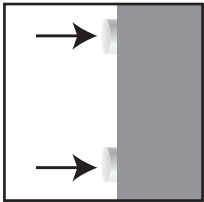

Figure 5.1
1. Make sure that the locking door bolts are retracted in the open position (Figure 5.1).